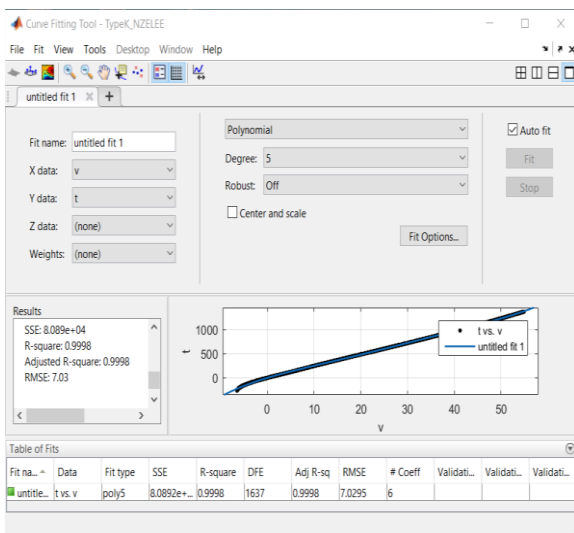
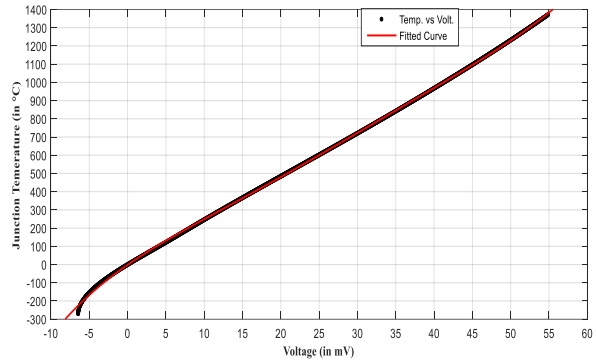
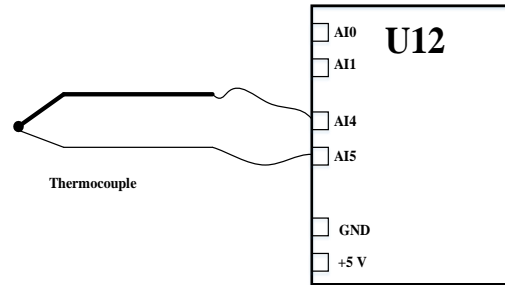

Figure 13. Fitting session window for type K thermocouple
Figure 14. Temperature as the function of the output voltage for type K thermocouple
Figure 15. LabJack Wiring Diagram for the thermocouple
In order to obtain the relationship between the measured temperature (T) and the output voltage (V), MATLAB® software has been used. With its curve fitting tool (cftool), the polynomial equation shown in equation (7) is obtained. The curve fitting tool window is shown in figure 13 and the plotting curve $T=f(V)$ in figure 14. The wiring diagram and the wiring image are shown in figures 15 and 16 respectively.